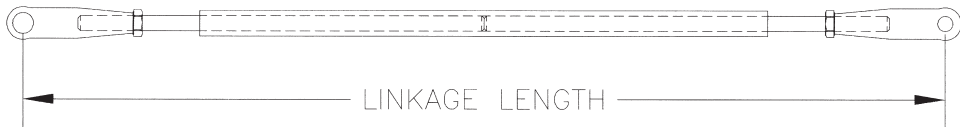

Fig. 19
Step 23 Set linkage rod length according to chart in figure 19. Threaded rod must be cut off for TWL 125 lengths. Connect linkage rod from the closing bracket (in disengaged position) to the lever on the closing handle. Adjust linkage rod so that lever contacts the spacer. Place closing handle in down position and weld lever to handle. See figure 20.